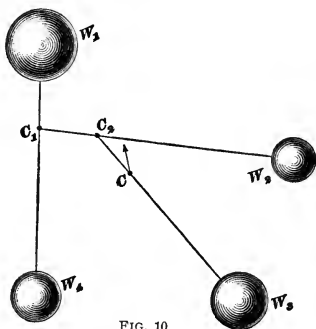

FIG. 10.
**Rule 11.**—Find the center of gravity of two of the bodies, as  $W_1$  and  $W_2$  in Fig. 10. Assume that the weight of both bodies is concentrated at  $C_1$ , and find the center of gravity of this combined weight at  $C_1$  and the weight of  $W_3$ . Let it be at  $C_2$ ; then find the center of gravity of the combined weights of  $W_1$ ,  $W_2$ ,  $W_3$  (concentrated at